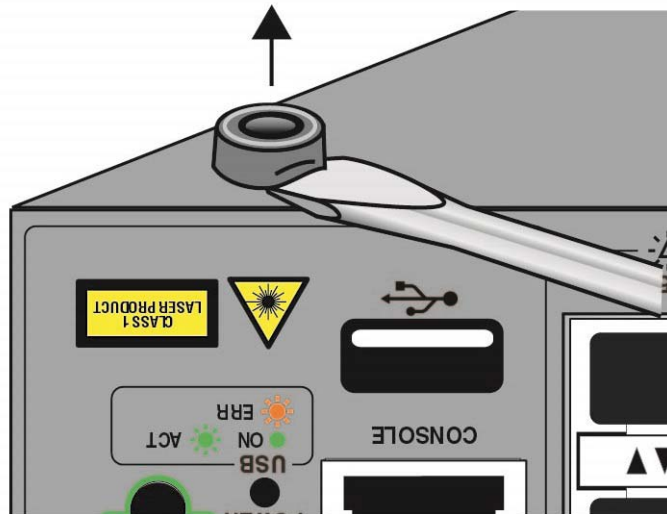

Figure 20. Removing the Bumper Feet
2. Use a small flat-head screwdriver to pry the feet from the bottom of the switch. Refer to Figure 20.